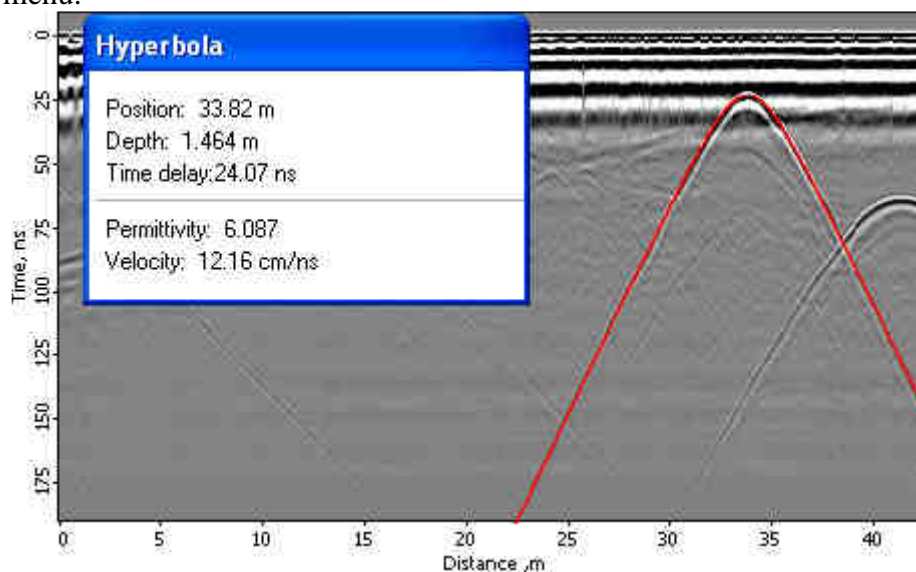

Fig. 10.3. Hyperbola technique used for measuring local target parameters.
-  **Hyperbola** – Local object's depth and medium's permittivity determination. When a profile intersects diffractive targets, such as pipes, cables, stones, archeological objects, areas of drastic soil properties variation, their signals on the radiolocation profiles have hyperbola shape; signal examples are shown in Figs. 4.2, 4.3, 10.3. When **Hyperbola** option tool is selected, pressing on the profile will draw hyperbolic line that goes from a theoretical local target in a theoretically homogeneous medium, and open an information window with this target and medium parameters. Your task is to match the theoretical hyperbola with the signal's hyperbola on the profile. First, align the vertices of the hyperbolas; for this purpose, bring the cursor to the signal's hyperbola vertex, and press the left mouse button. The hyperbola slope may be changed by pressing right mouse button: position the cursor on the signal's hyperbola branch, and press the right mouse button. For more accurate hyperbolas matching we recommend to use  **Zoom in** on the Main menu (see below) and make several iterations. Matching hyperbolas example is shown in Fig. 10.3.